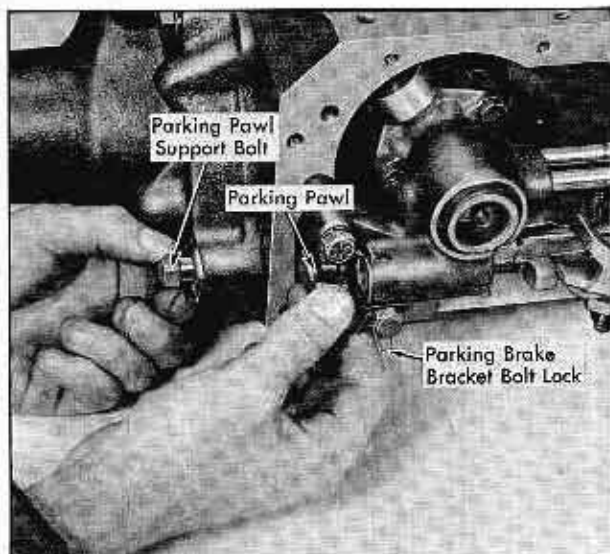

Fig. 14-17 Removing Parking Pawl Bolt
2. Loosen lock plate and remove parking brake pawl support bolt (9/16") from rear of case. Fig. 14-17. Move pawl down into case away from reverse internal gear. (Pawl cannot be removed at this time.)